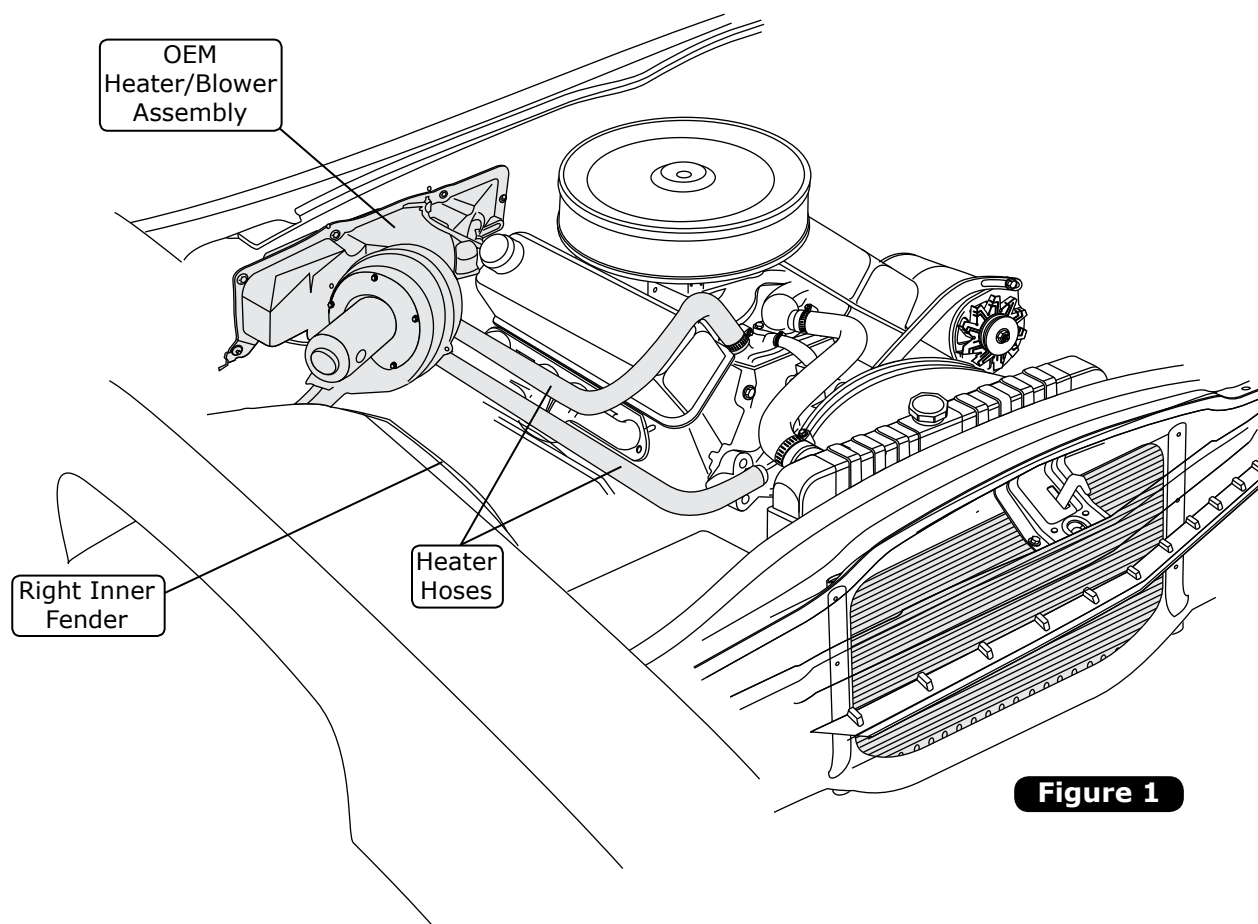

Figure 1
4. Remove OEM heater hoses (discard) (See Figure 1, below).
5. Remove OEM heater/blower assembly (discard) (See Figure 1, below).